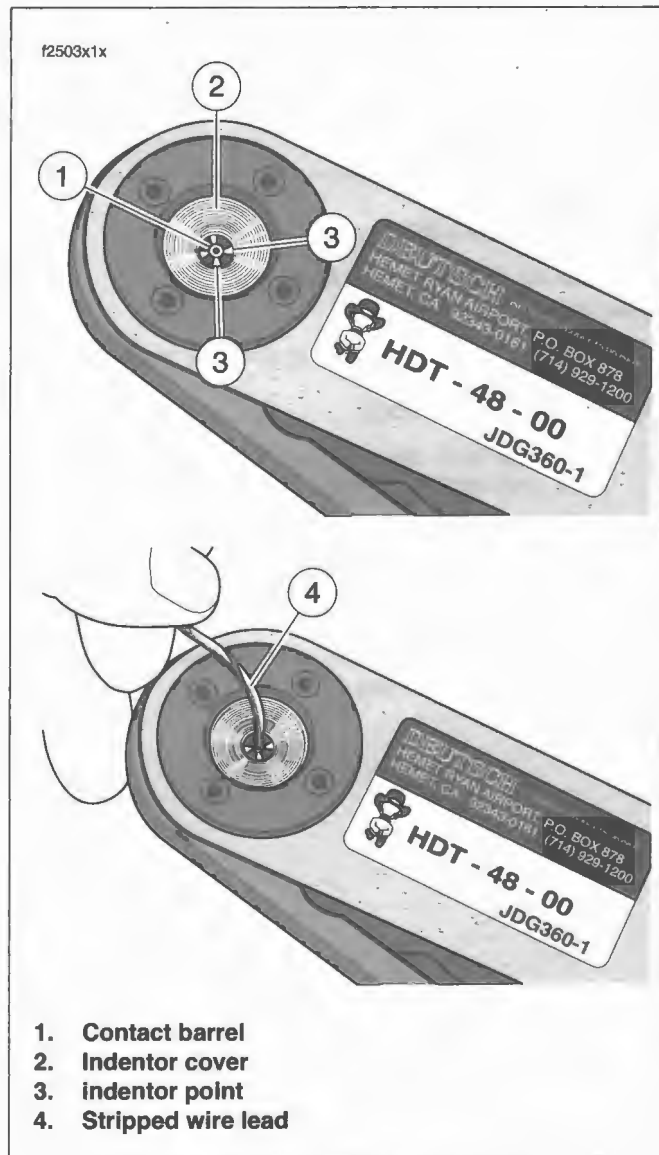

Figure B-22. Deutsch Solid Barrel
1. See Figure B-22. Turn tool over and drop contact barrel (1) into indenter cover (2) hole with the wire end out.
3. Slowly squeeze handles of crimp tool until contact is centered between the four indenter points (3).
4. Insert bare wire core strands of stripped wire lead (4) into contact barrel. Squeeze handle of crimp tool until tightly closed. Tool automatically opens when the crimping sequence is complete.